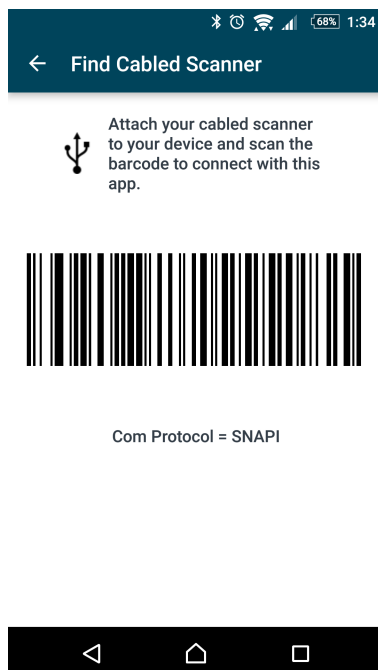

Figure 1-8 SNAPI Bar Code
e. If there is a single scanner to connect, the application connects to the scanner automatically. If there are no SNAPI scanners connected, the application displays the SNAPI bar code (Figure 1-8) to scan to connect.